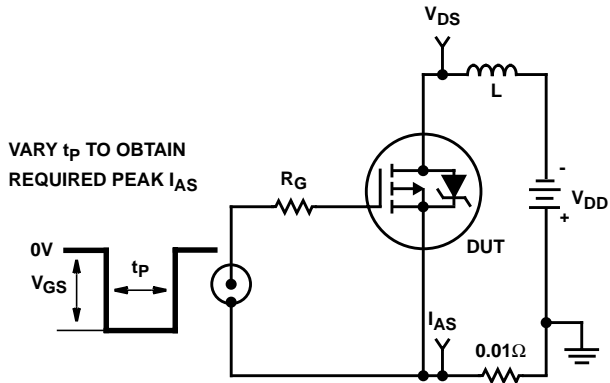

FIGURE 15. UNCLAMPED ENERGY TEST CIRCUIT
4. $V_{DD} = 25V$, starting $T_J = 25^{\circ}C$, $L = 31.7mH$, $R_G = 25\Omega$, peak $I_{AS} = 3.0A$. See Figures 15, 16.